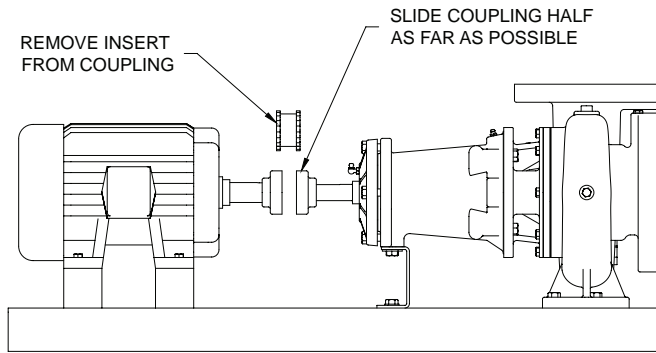

Figure 41
6. For Pentair Aurora 3804 pumps, loosen the set screws in both coupling halves and slide each half back as far as possible on its shaft. Then, remove the coupling insert. See Figure 41 shown on next page.